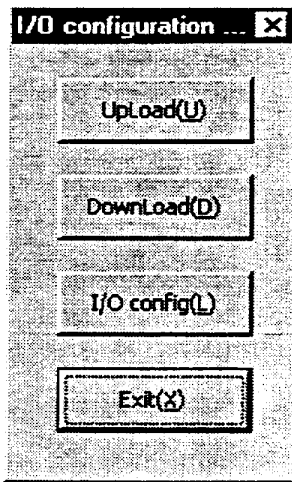

Figure 7.55 "I/O configuration" dialog box
Click "I/O set (I)" under "MainMenu" to display the "I/O configuration" dialog box (see Figure 7.55).